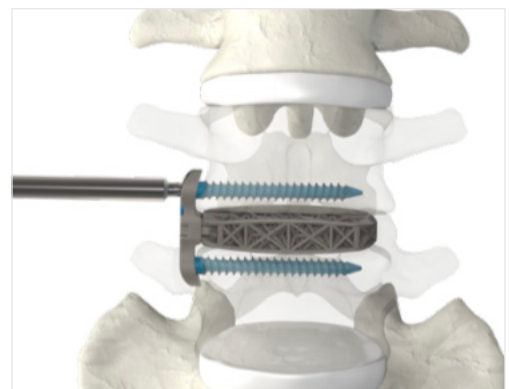

Figure 12
- ▲ The LSTS Plate Solution offers locking and press-fit Drivers for screw insertion. Select the desired driver and attach the handle to the proximal end of the instrument. Select the desired length screw and fix it to the distal end of the Driver. Insert the screw through the hole in the plate. Drive the screw until it is fully seated in the plate (Fig. 12).